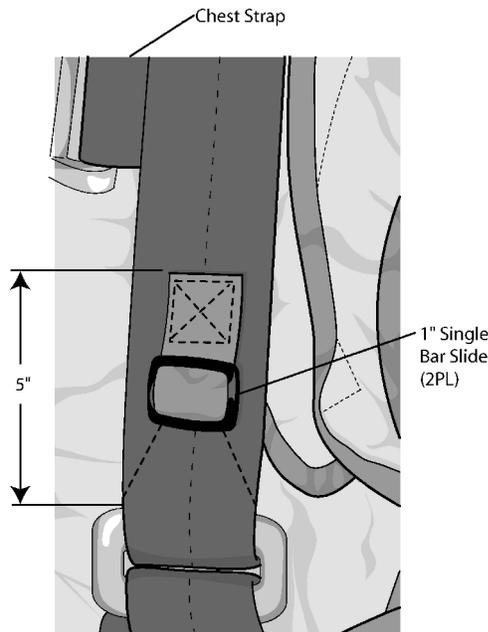

Figure 12. Attachment of Front Lower Single Slide Bars
(24) Repeat procedure on other side.
(25) On front of harness measure and mark 5-in. up from harness D-Ring, repeat for other side.
(26) Slightly angle (approximately 30 degrees) the front lower single bar slides with the inside corner of the webbing on the 5-in. mark. Sew in place with a 3/4-in. box X stitch (Figure 12).